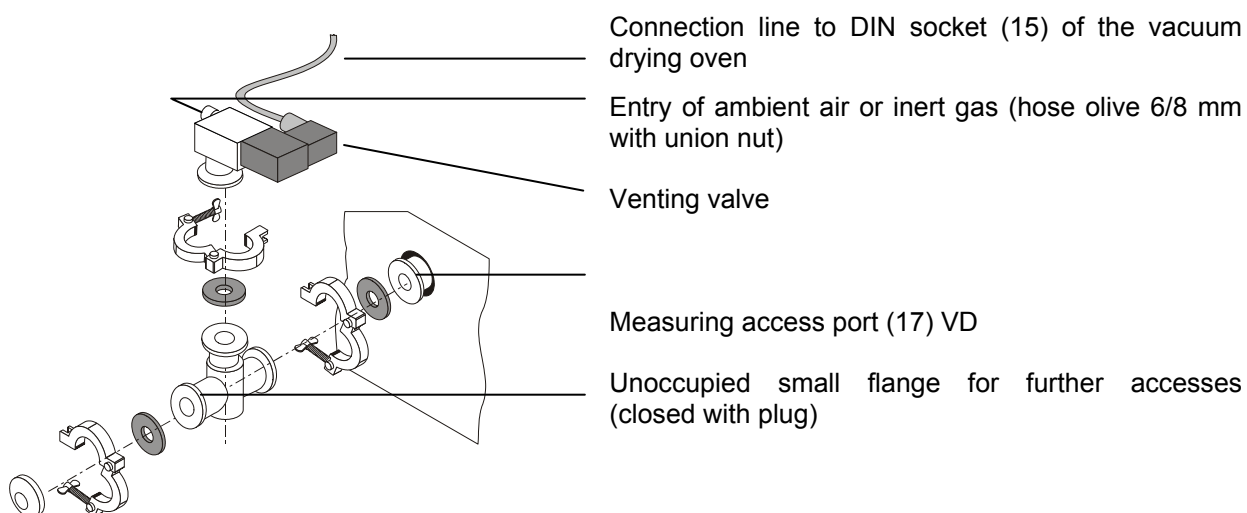

Figure 23: Connection of the venting valve (option, Art. No. 8012-0552)
The venting valve connects the measuring access port (17) at the rear side of the vacuum drying oven as shown below (Figure 23). All necessary connection parts are included with Art no. 8012-0552.